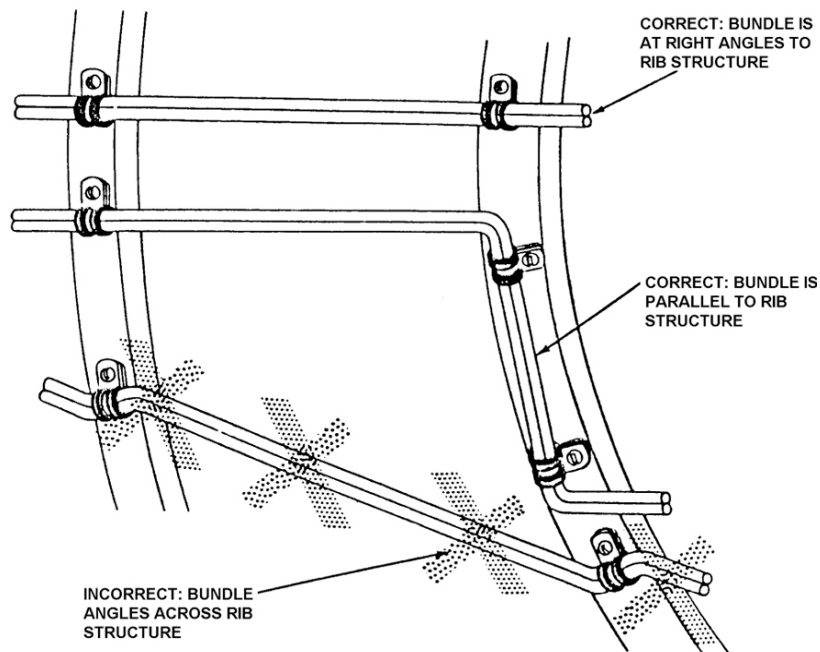

Figure 2-2. Routing bundles.
1. Wherever practical, route wires and/or bundles parallel with, or at right angles to, ribs of the aircraft, as shown in figure 2-2.